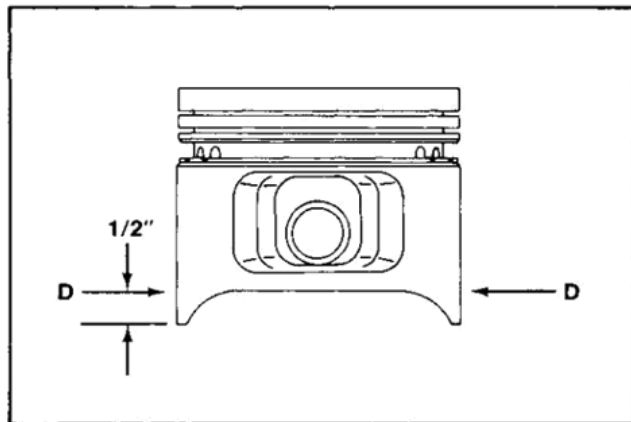

Figure 10-4. Measuring Piston Diameter (Style "D" Piston).
1. Use a micrometer and measure the diameter of the piston, 1/2" above bottom of piston skirt, perpendicular to the piston pin (refer to Figure 10-4).